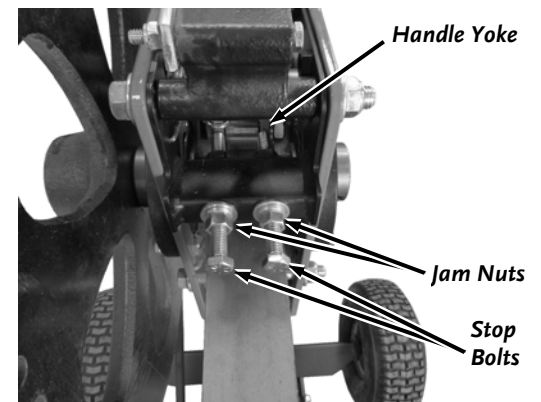

Figure 38
4. Loosen the Stop Bolt Jam Nuts (**Figure 38**).